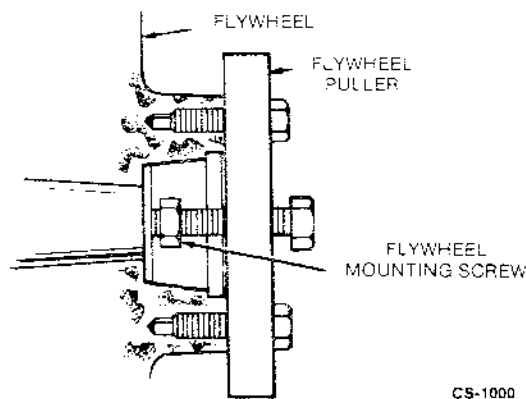

FIGURE 25. BLOWER WHEEL PULLER
2. Install a puller bar on the flywheel as shown in Figure 25.